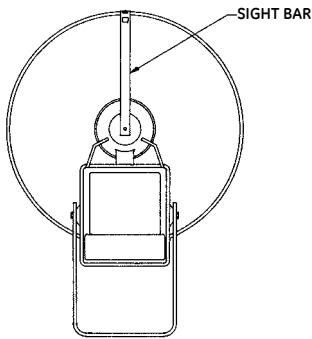

FIGURE 5A
4. Rotate sight bar into position; see Figure 5A.